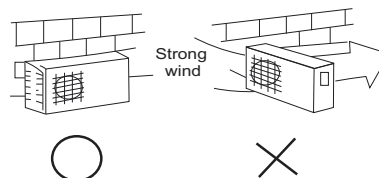

Fig. 8 — High Wind Installation
1. Select the installation location of the outdoor unit following the installation requirements. To prevent high wind exposure, install the outdoor unit with the air inlet side facing the wall (see fig 8).